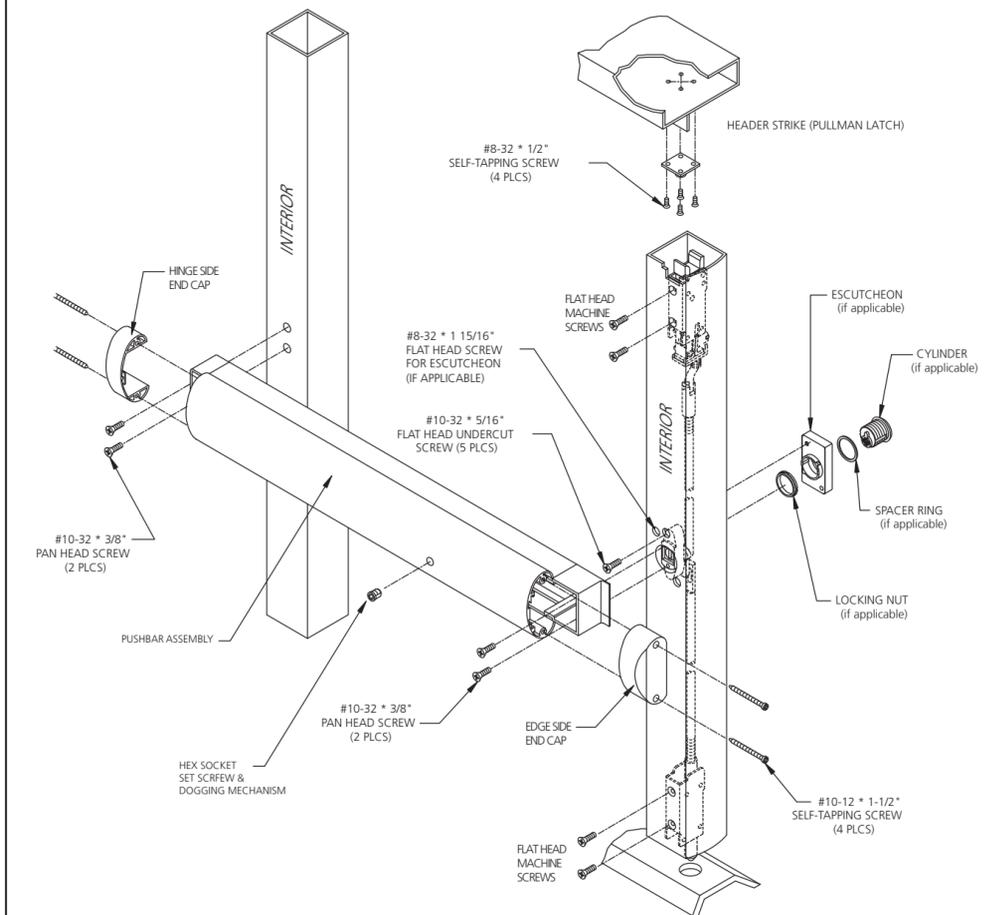

FIG. 3
3. If outside cylinder is to be used, mark the cylinder horizontal and backset centerline on the door exterior stile (refer to figures 3 & 2).